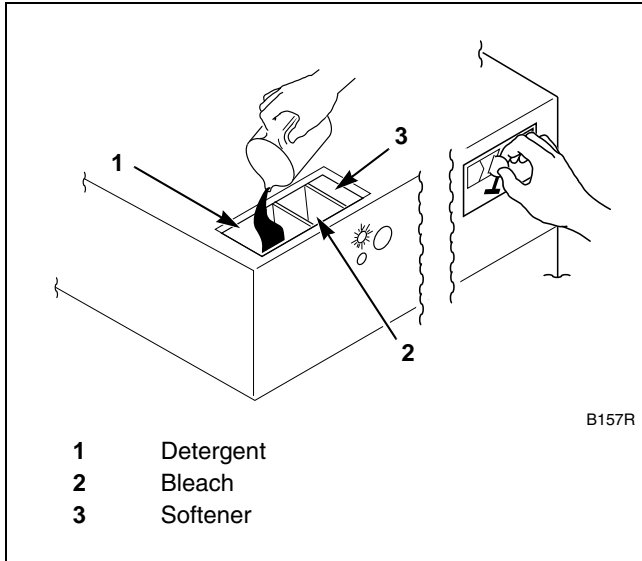

Figure 8
6. At start of cycle, add liquid and/or powder supplies to supply dispenser. Refer to *Figure 8*.
7. If the machine is a coin operated unit, insert required number of coins to start machine. Refer to *Figure 8*.